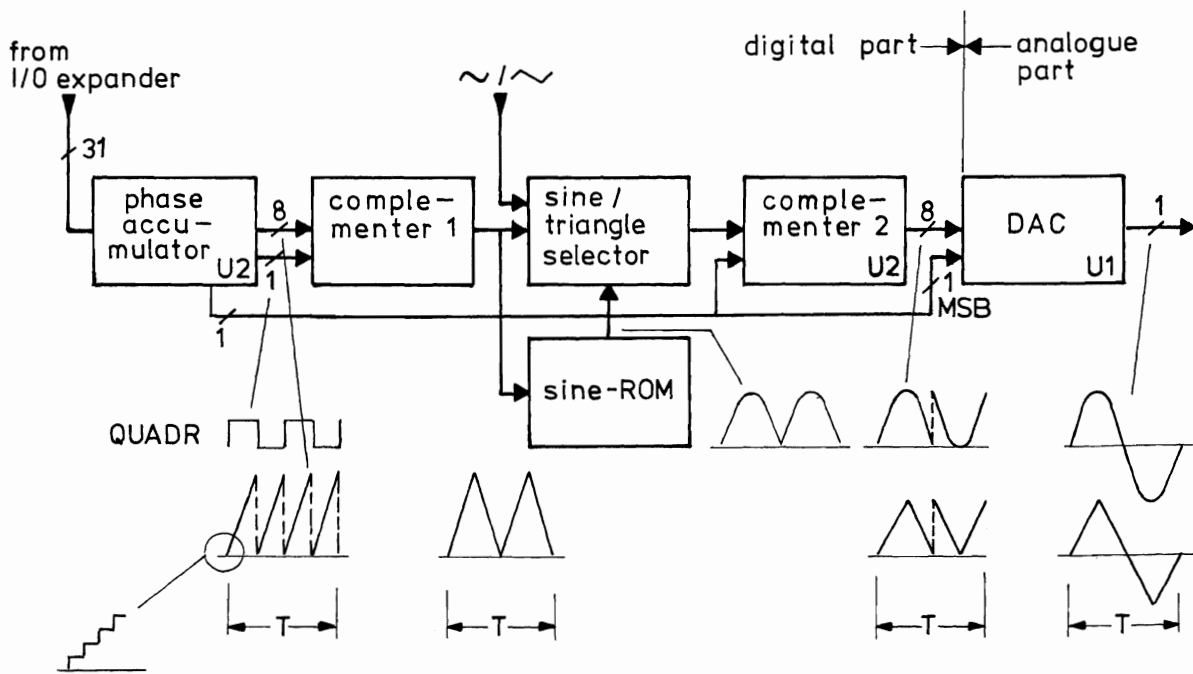

Fig.10: PM 5190, principle of signal generation (digital signal synthesis)
4.5. DIGITAL SIGNAL SYNTHESIS (figs.10, 45)
The block diagram for producing a binary sequence of numbers which corresponds to a sine or triangle signal, is depicted in fig.10, see overleaf.